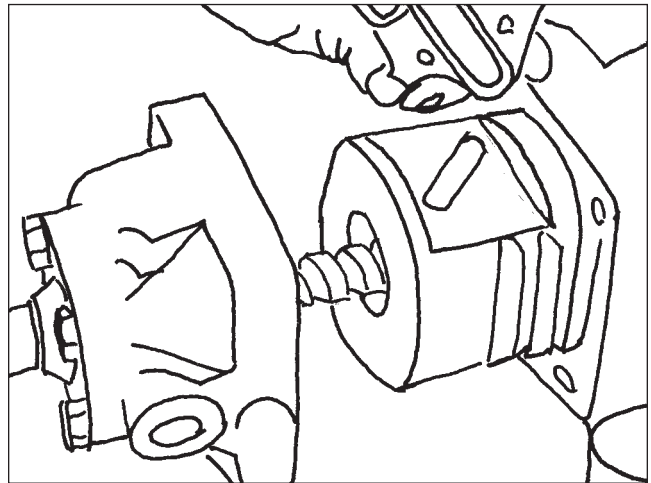

Figure 103
15. Do not remove the piston at this time. Leave the piston in the housing with the ball guide exposed (**Figure 103**).